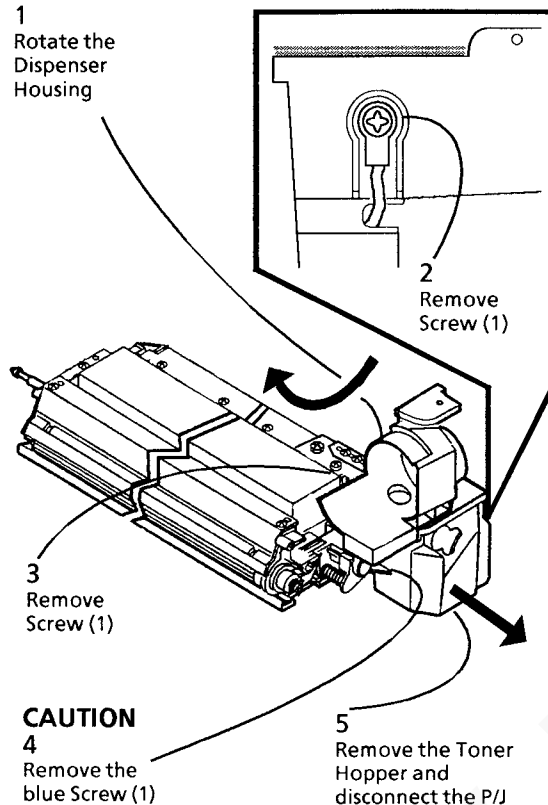

Figure 1. Removing the Toner Hopper
3. Remove the Dispenser Housing (Figure 1).